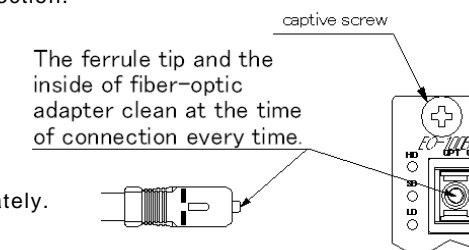

Figure 2 SC connector sections to clean
5. Referring to the Figure 2, be sure to clean the ferrule tip of the plug and the interior of the optical converter's connector. If the fiber optic connector is dirty, this may degrade the transmission and communication may be lost.